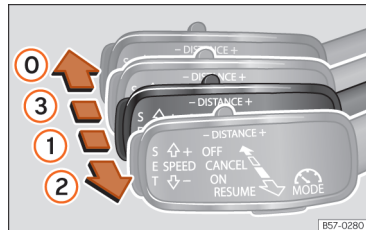
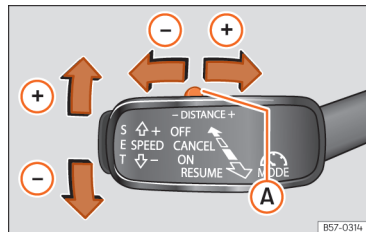

Fig. 237 On the left of the steering column: third lever for operating the Adaptive Cruise Control.
Fig. 238 On the left of the steering column: third lever for operating the Adaptive Cruise Control.
Once you are driving, if you wish to set the current speed as the vehicle's cruise speed and activate the ACC, press the **SET** »» Fig. 238 button. If you wish to increase or reduce speed by intervals of 1 km/h (0.6 mph), move the lever to position ② »» Fig. 237 or press the **SET** button, respectively.
To increase/reduce the distance level, press the rocker switch towards the left/right »» Fig. 238 A.
- To activate the ACC, with the third lever in position ① press the **SET** button or move the third lever of the ACC to position ② »» Fig. 237. At this point, the image of the
To disconnect the ACC move the lever to the ① position »» Fig. 237 (engaged). An **ACC deactivated** message appears and the function is totally deactivated.
If you do not wish to disconnect the ACC, just to switch it temporarily to inactive mode (Standby), move the third lever to position ③ »» Fig. 237 or press the brake pedal.